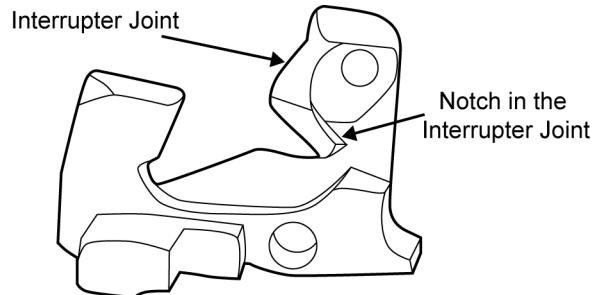

Figure 70. The Notch in the Interrupter Joint.
k. If present, push the long leg of the interrupter spring to the rear until it seats in the notch in the interrupter joint. Refer to Figure 70.